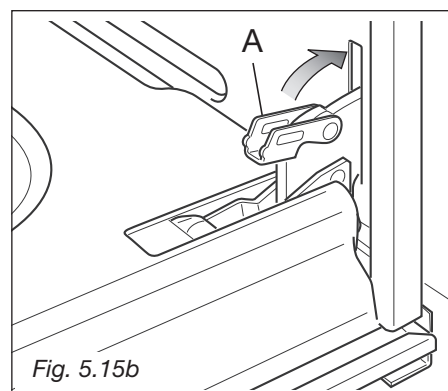

Fig. 5.15b
- Fully close the levers "A" on the left and right hinges, as shown in the figure 5.15b.